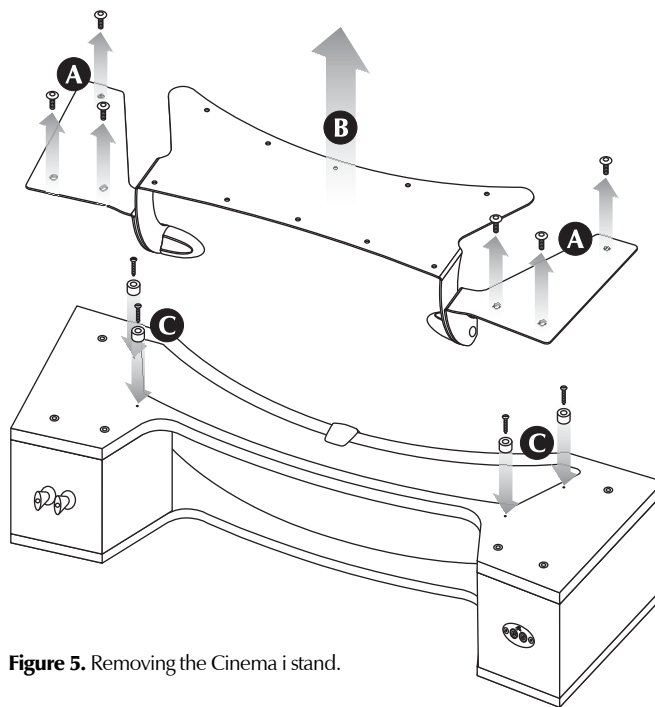

Figure 5. Removing the Cinema i stand.
- 2 Using the Allen tool remove 6 Allen bolts (3 from each side) from the Cinema i stand (figure 5, step A).
- 3 Remove the stand (figure 5, step B).
- 4 To install the hollow rubber bumper feet, locate the 4 small pilot holes on the bottom of the Cinema i. Insert a #8 x 3/4" Phillips head wood screw through a rubber bumper (the wider flat surface should face the speaker cabinet) and screw the bumper into a pilot hole. Repeat until all 4 feet are installed. The Cinema i is now ready for use without the stand (figure 5, step C).